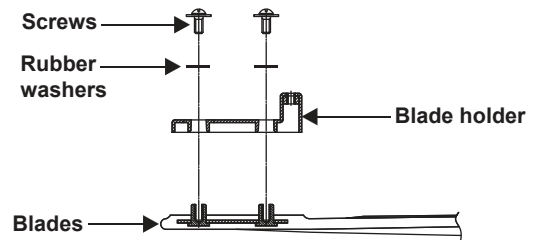

Figure 6
2. Attach the blade holder to the blades using the screws and rubber washers provided. Repeat process with other blades. (Fig. 6)